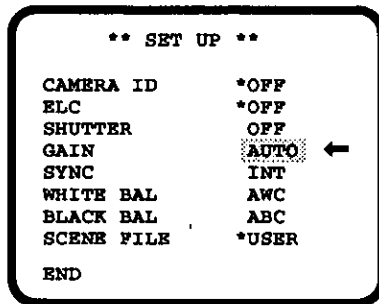

Fig.30
- Display the SETUP menu as shown in Fig.30.